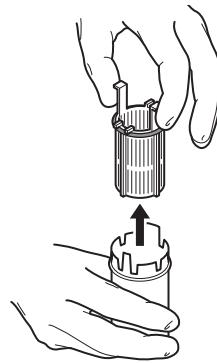

Figure 10 Remove Filter From Manifold
- Remove the filter from the manifold to collect the specimen (Figure 10).